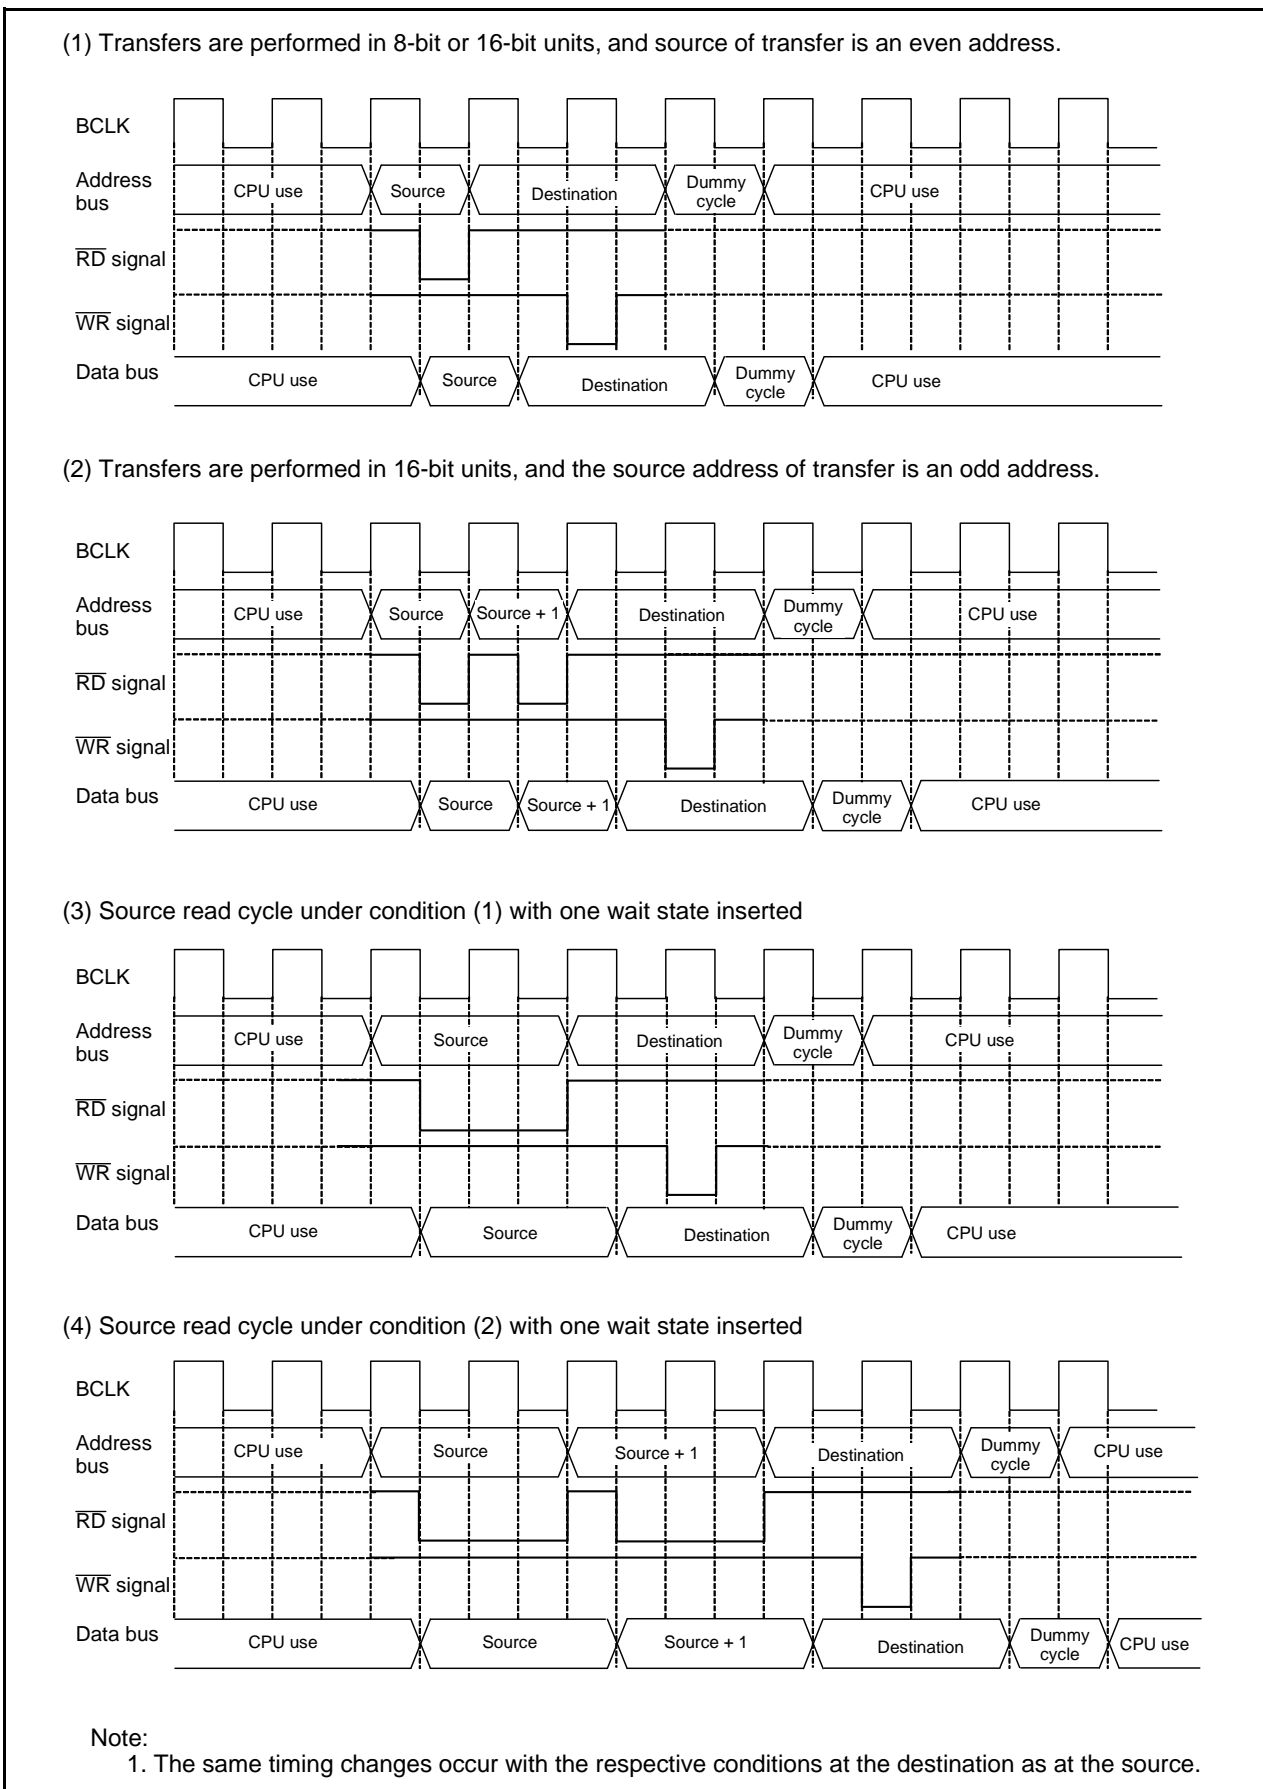

Figure 16.2 Transfer Cycles for Source Read Operations
Figure 16.2 shows Transfer Cycles for Source Read Operations. For convenience, the destination write cycle is shown as one cycle and the source read cycles for the different conditions are shown. In reality, the destination write cycle is subject to the same conditions as the source read cycle, with the transfer cycle changing accordingly. When calculating transfer cycles, take into consideration each condition for the source read and the destination write cycle. For example, when data is transferred in 16-bit units, and the source address of transfer is an odd address ((2) in Figure 16.2), two source read bus cycles and two destination write bus cycles are required.